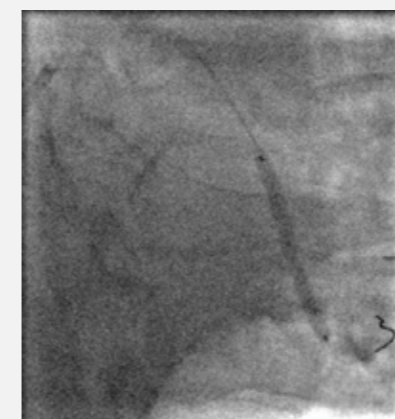

Fig. 5 DES deployment
- A 2.75 x 33 mm DES was implanted in the mid circumflex (Fig. 5).